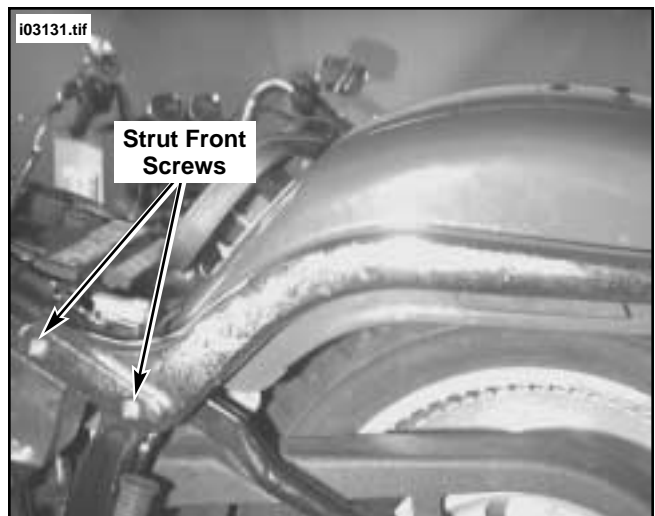

Figure 3. Remove Fender Strut Front Screws
5. See Figure 3. Remove two left side strut front socket head screws. Save hardware for re-installation.